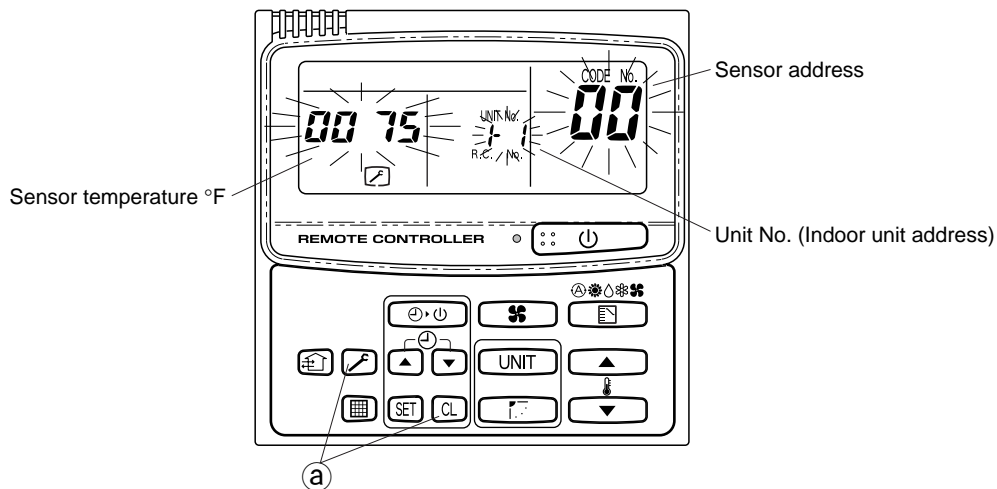

Fig. IV-4
- ① On the remote controller, press both  and  buttons at the same time for more than 4 seconds. (Ref. Fig. IV-4)
- ② The UNIT No., the address and temperature of the sensors instead of its usual information will flash on the display.
- ❑ Each time you press the  button you can select a different sensor, and the display shows the sensor address and temperature as shown Fig. IV-4.